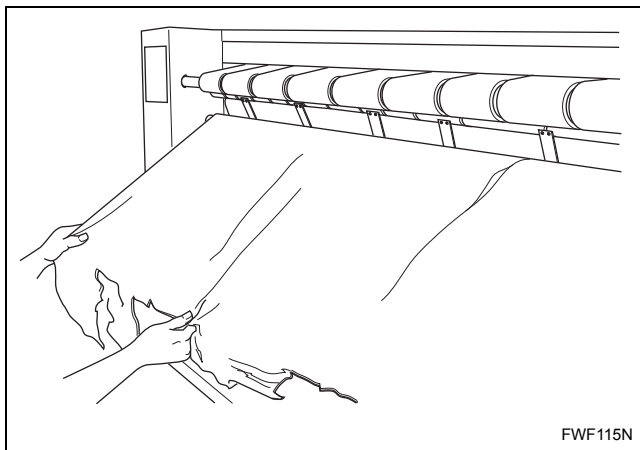

Figure 14
- e. Completely remove protective paper. Refer to *Figure 14*.